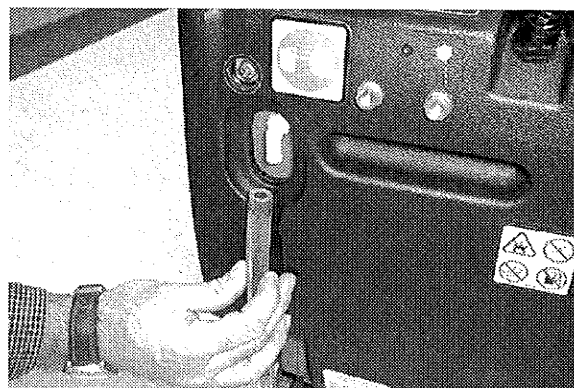

FIG. 12
1. Pull solution tank drain hose off of hose barb at rear of machine and empty remaining solution (Figure 12).